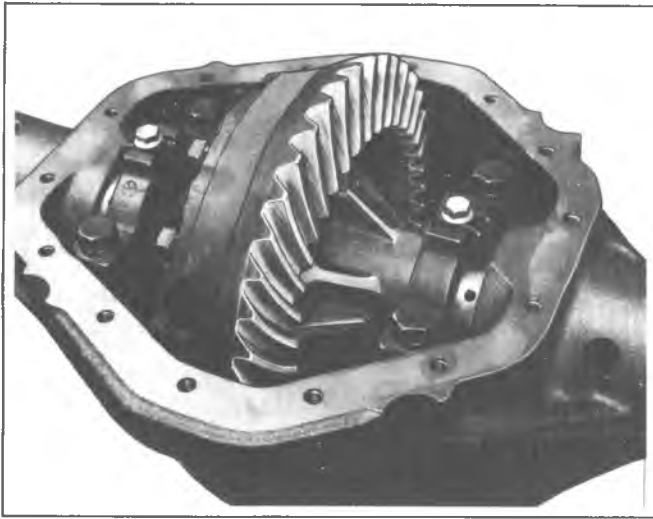

Fig. 2E--Cover Removed from Carrier
2. Remove cover bolts and cover, as seen in figure 2E, and allow lubricant to drain into pan.